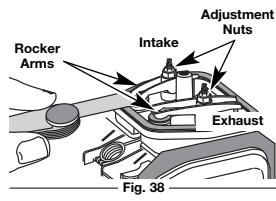

Fig. 38
- Slide the feeler gauge between the rocker arm and the valve return spring. Measure the clearance between the valve stem and rocker arm (Fig. 38). Measure both the intake and exhaust valves.
The recommended clearance for both intake and exhaust is .003 – .006 in. (.076 – 0.152 mm). Use a standard automotive .005 in. (0.127 mm) feeler gauge. The feeler gauge should slide between the rocker arm and valve stem with a slight amount of resistance, without binding. See Figures 38 and 39.